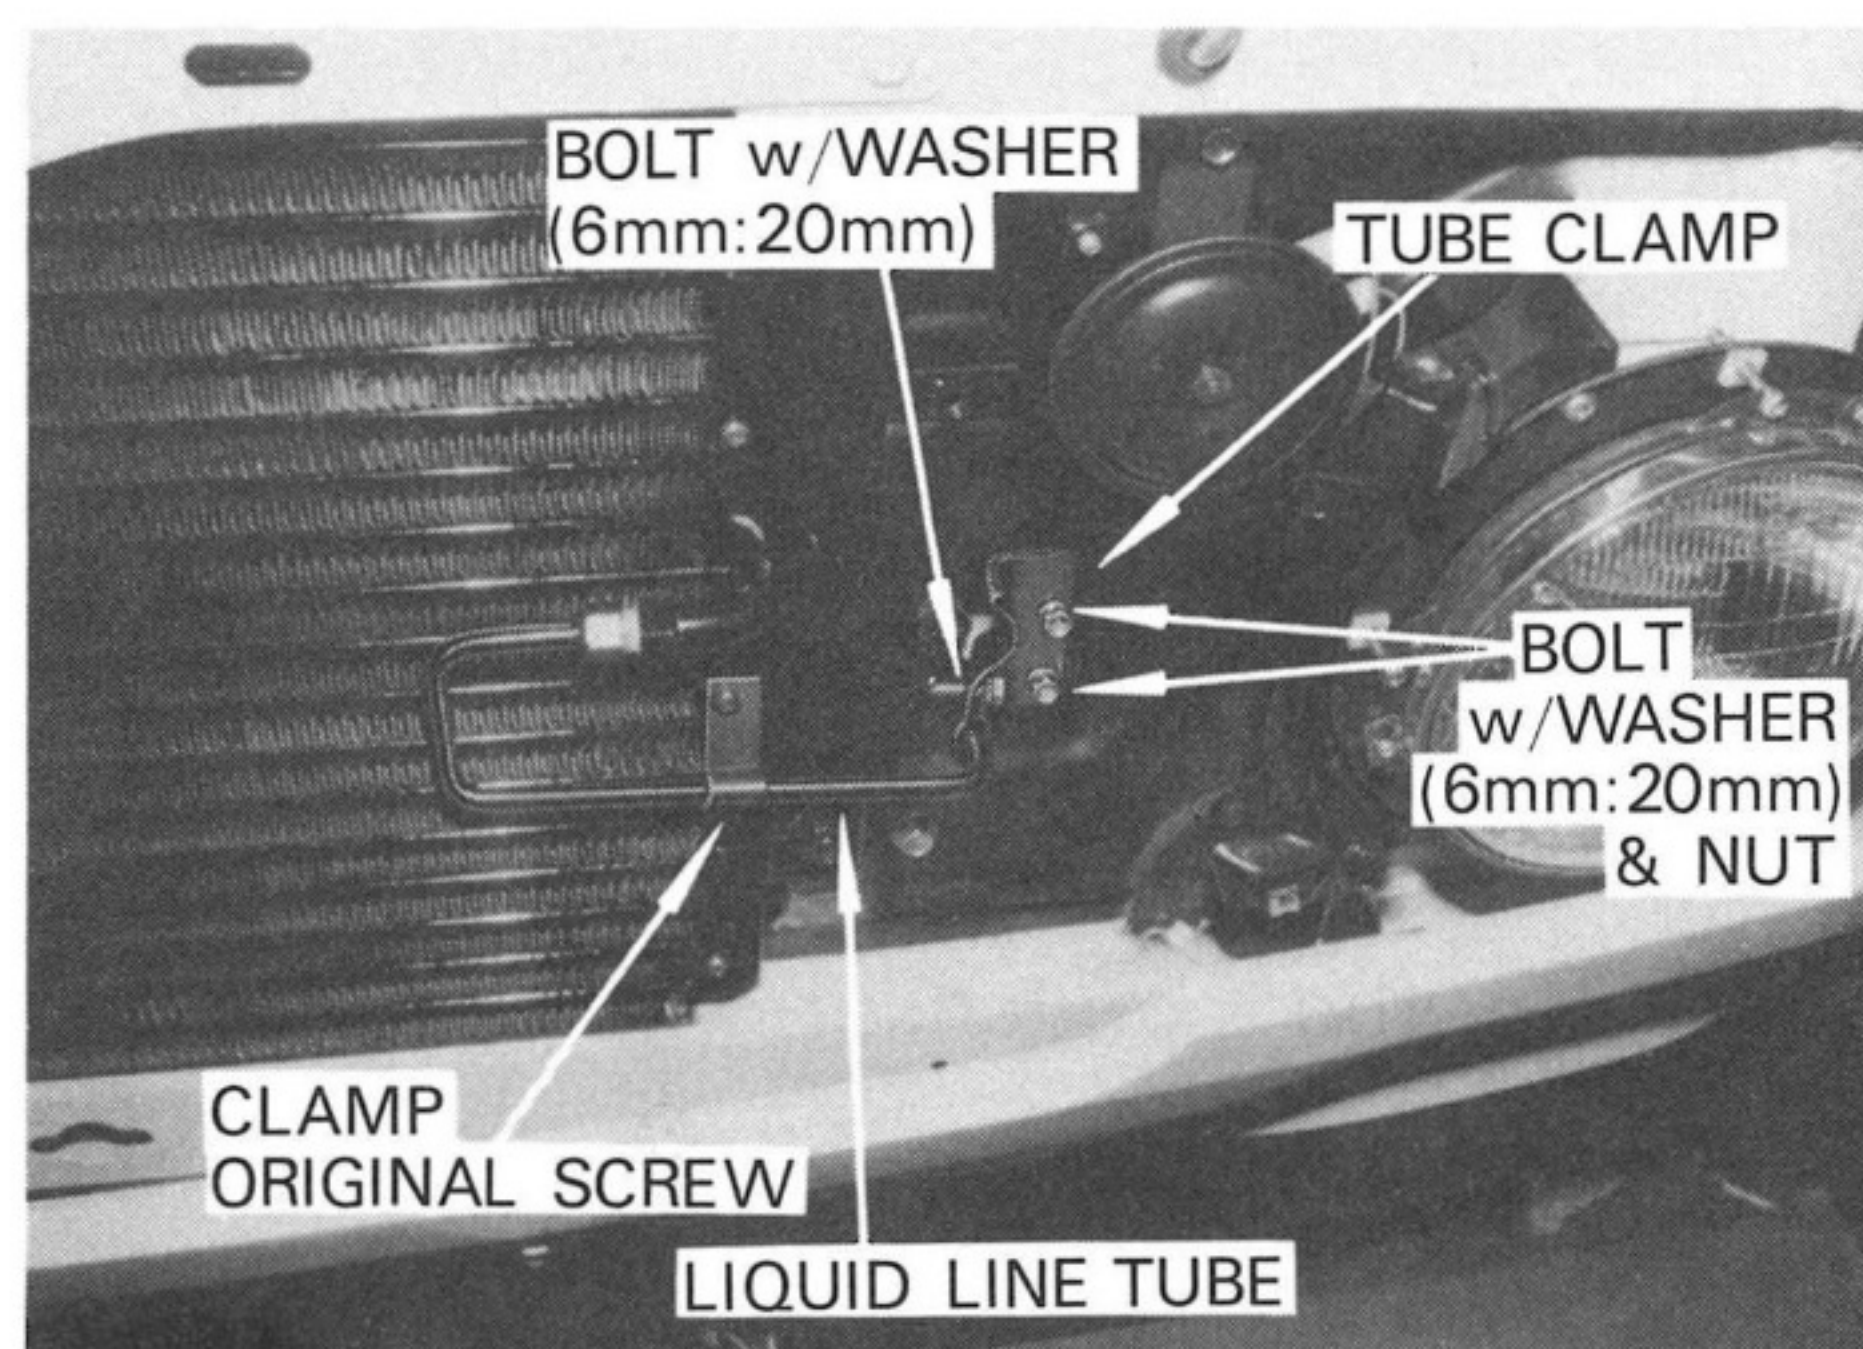

Fig. 28
- B) Fasten the liquid line tube using a tube clamps as shown in Fig. 28.